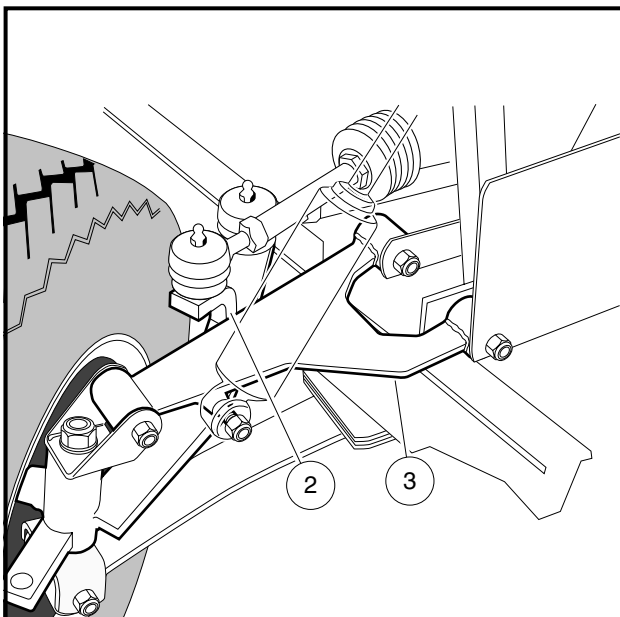

Figure 7-7 Adjust Steering Alignment
1. Turn the steering wheel all the way to the right. Note the distance between the passenger-side spindle stop (2) and passenger-side A-plate (3) **(Figure 7-7, Page 7-7)**. The internal stop on the rack must reach its limit of travel against rack and pinion housing at exactly the same time the spindle stops against the passenger-side A-plate (with vehicle wheels turned to the right). If simultaneous contact occurs, steering is in correct adjustment; Proceed to step 4. If simultaneous contact does not occur, proceed to step 2.